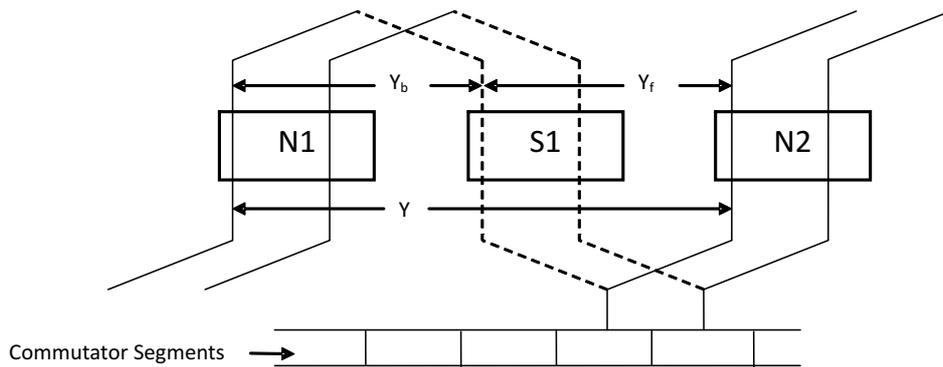

Fig.3.10 - Wave winding
**3.9 WAVE WINDING:** When the finishing end of the first coil is connected to the starting end of the next coil, as shown in Fig. 3.10, which starts from the next adjacent pole where the first coil started is known as wave winding.
From Fig. 3.10, for wave winding, the front pitch,  $Y_f = Y - Y_b$  3.21
From Fig. 3.10 or from equation 3.21, front pitch,  $Y_f = 26 - 13 = 13$  (odd integer).